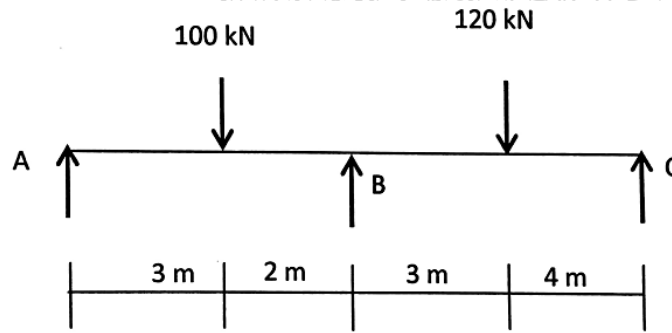

Fig.5
Q.6 Draw BMD of fixed beam as shown in figure 5 by using three moment theorem. 14